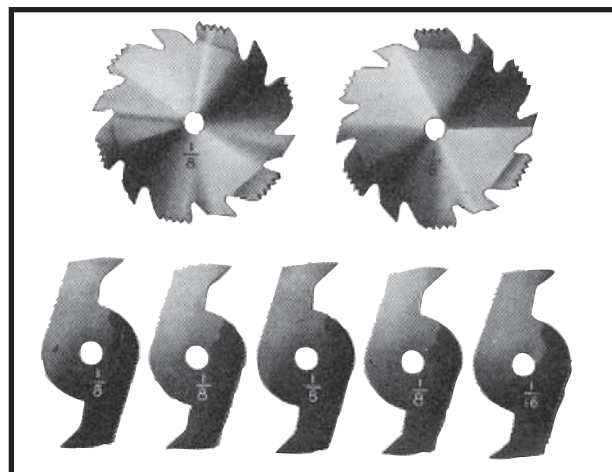
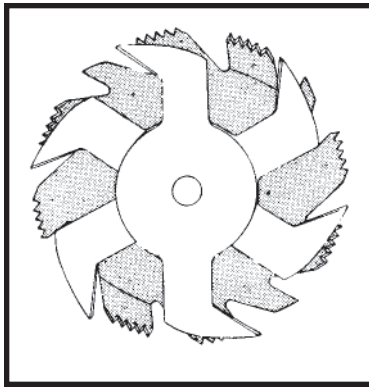
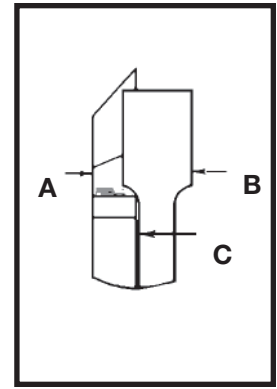

Fig. S17
Fig. S18
Fig. S19
1. Dadoing is cutting a rabbet or wide groove into the work. Most dado head sets are made up of two outside saws and four or five inside cutters, (Fig. S17). Various combinations of saws and cutters are used to cut grooves from 1/8" to 13/16" for use in shelving, making joints, tenoning, grooving, etc. The cutters are heavily swaged and must be arranged so that the teeth do not hit each other during rotation. The heavy portion of the cutters should fall in the gullets of the outside saws, as shown in Fig. S18. The saw and cutter overlap is shown in Fig. S19 (A) being the outside saw, (B) an inside cutter, and (C) a paper washer or washers, used as needed to control the exact width of groove. A 1/4" groove is cut by using the two outside saws. The teeth of the saws should be positioned so that the raker on one saw is beside the cutting teeth on the other saw.